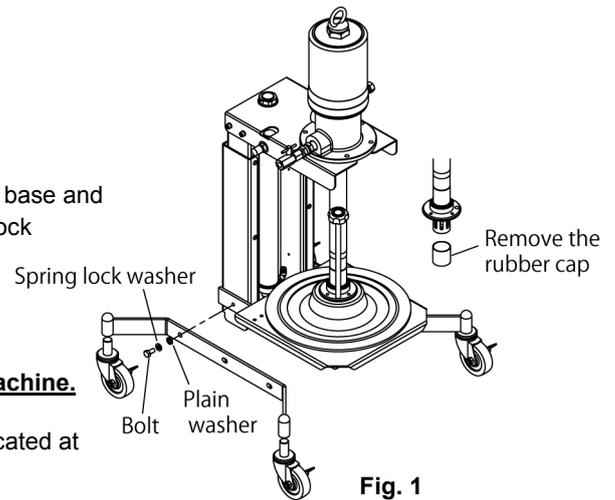

Fig. 1
- 1) Casters are packed separately. Insert them into the caster base and secure with the supplied bolts, plain washers, and spring lock washers. (Fig. 1)